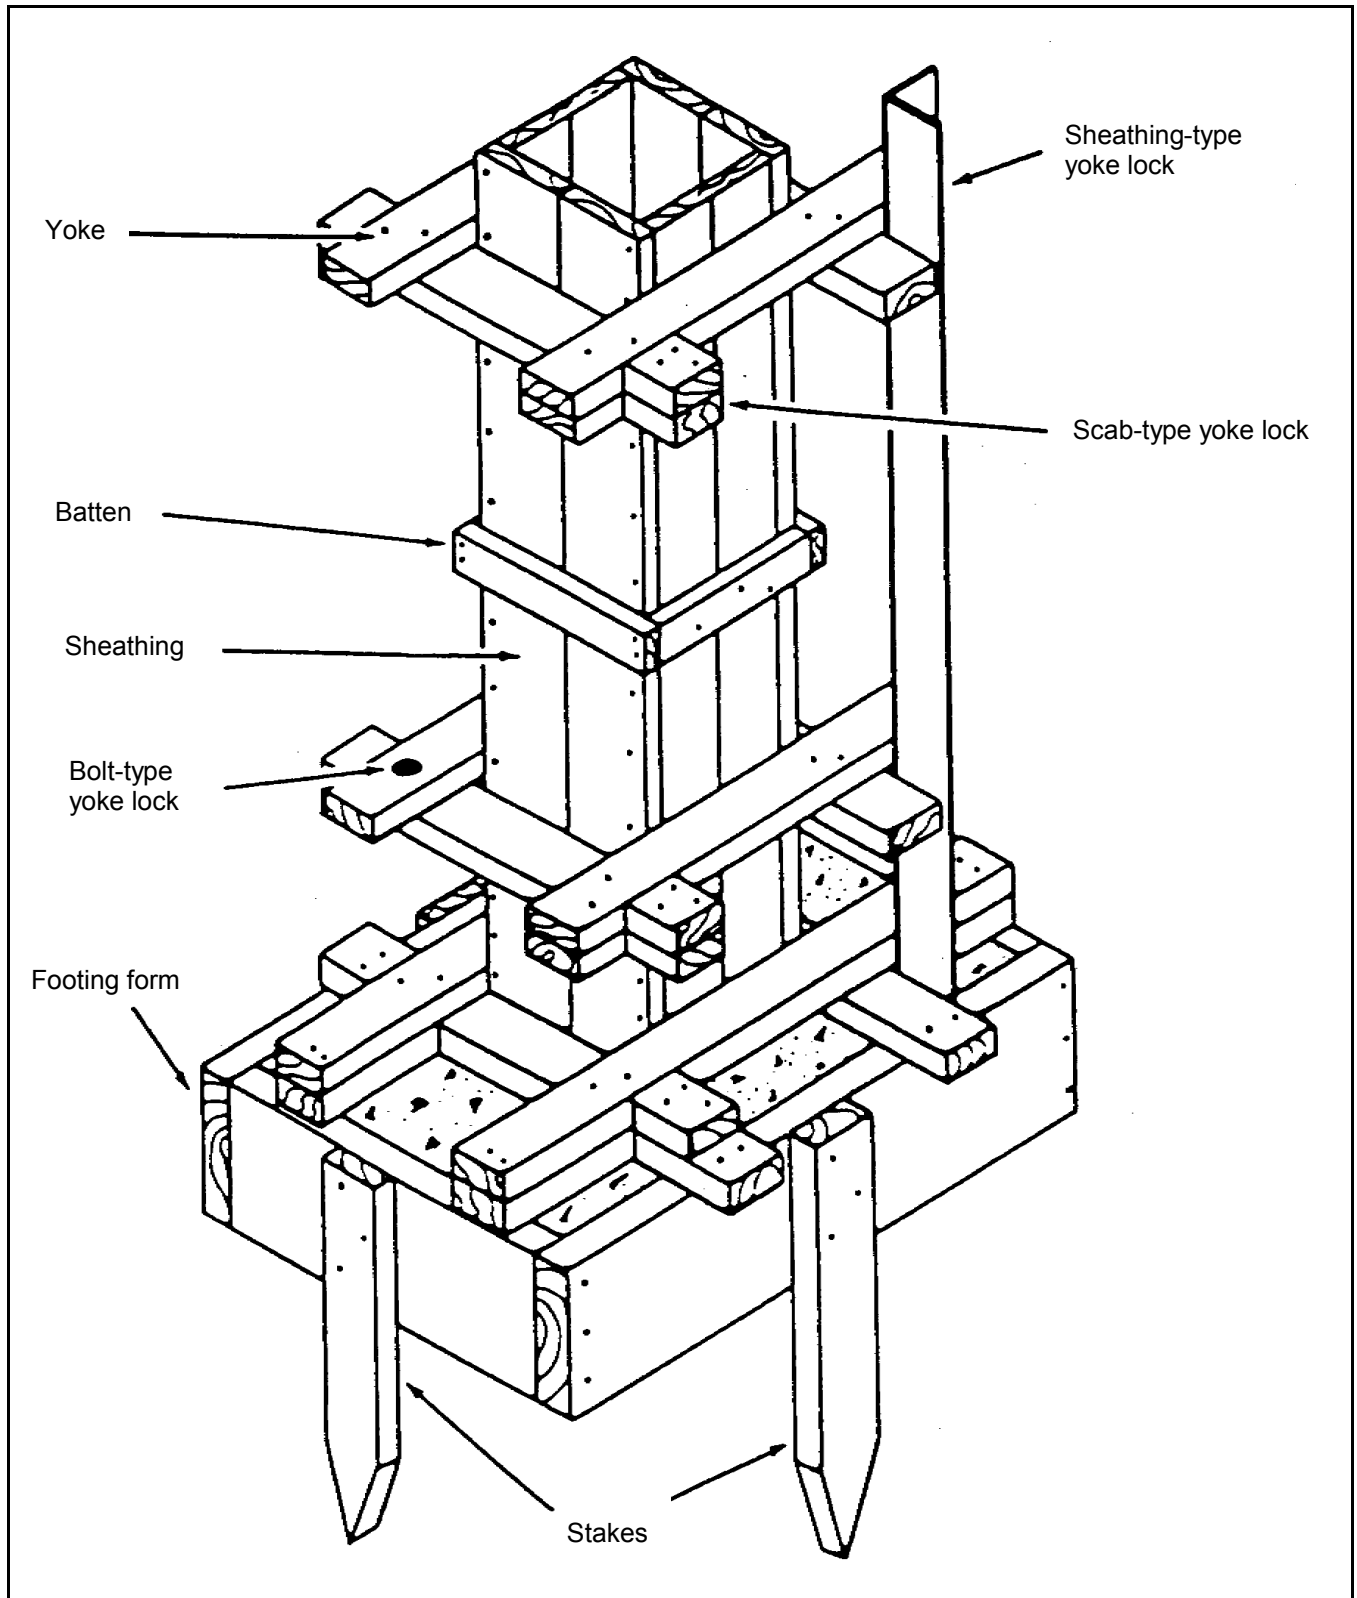

Figure 1. Elements of Wooden Forms for Concrete Columns
1. **Concrete Columns.** You need to know the elements of wooden forms and the types of materials used when designing wall forms for concrete columns (*Figure 1*). Important elements and materials of wooden forms for concrete columns are as follows: